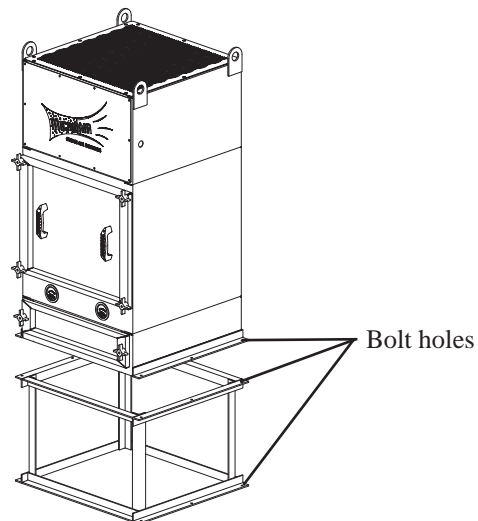

Fig. 2
2. Bolt the air cleaner to the machine in it's final location using the provided holes in the flanges of the air cleaner (FIG 2).
1. Bolt the air cleaner to the stand and the stand to the floor in it's final location using the provided holes in the flanges of the air cleaner and stand (FIG 2).